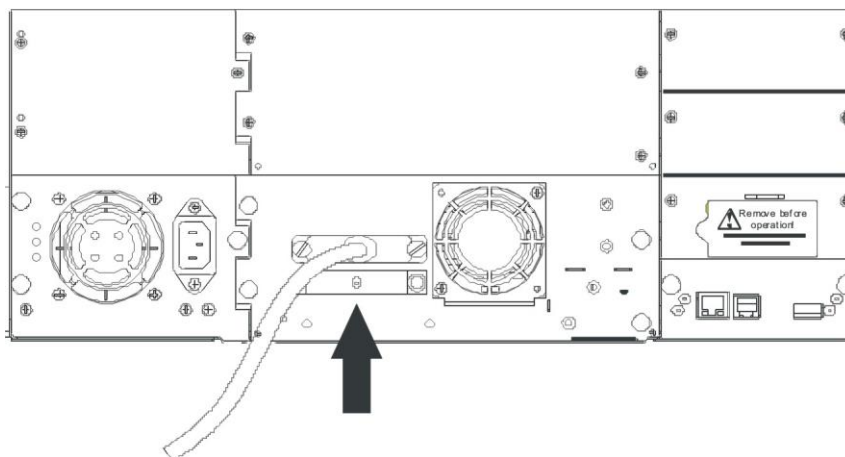

Figure 18 Attaching the terminator to the drive
4. Attach the terminator to the remaining SCSI connector on the back panel of the Library; if the Library is the last or only device on the SCSI bus (see Figure 18). Otherwise, attach one end of a SCSI cable to the remaining port and the other end to the next device on the SCSI bus. Make sure that the last device on the SCSI bus is properly terminated.